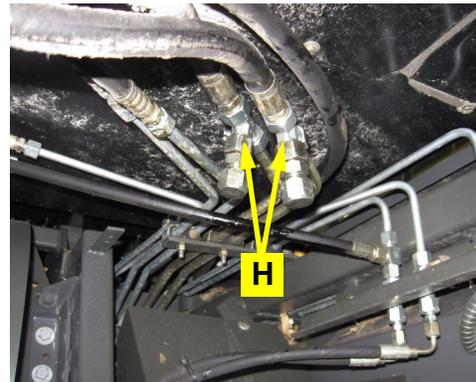

Figure 3b: Installed pressure and tank fittings
- b. Disconnect the rubber tank and pressure hose from the steel pressure and tank line. Install run-tee fittings **H** between the steel and rubber lines (Figure 3b).